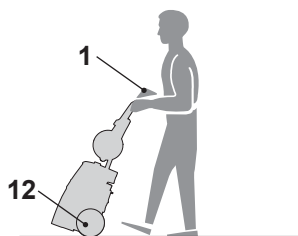

Fig. 44
- > Adjust the transportation handle (1) to the transport position.
- > Tilt the product towards you until it balances on the wheels (12). Then move it by its transportation handle (1) (Fig. 44).